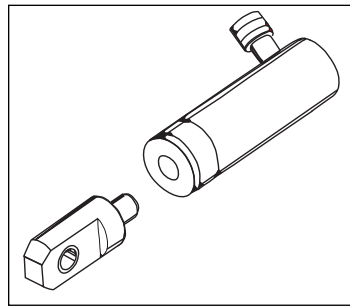

Figure 1, PLUNGER CLEVIS - Attaches to cylinder plunger.
2. The clevis mounts to the cylinder plunger (see Fig. 1) and provides a method of attaching cylinders to custom fixtures or set-ups where the cylinder is used for pushing only. **CAUTION:** The clevis attachment is